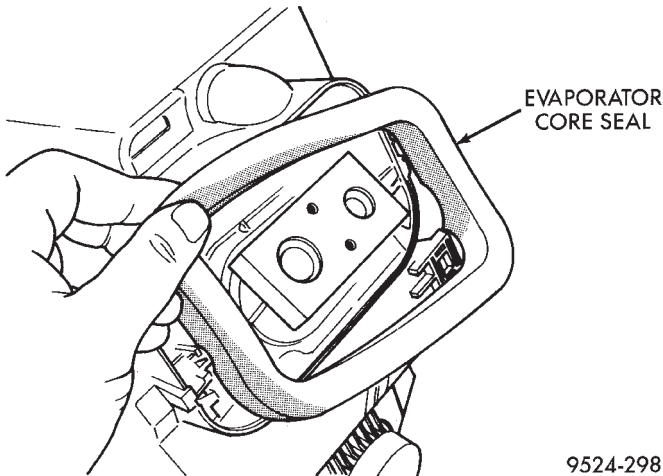

**Fig. 89 Evaporator Tube Inlet Seal**
- (19) Remove seal around evaporator tube inlet (Fig. 89).